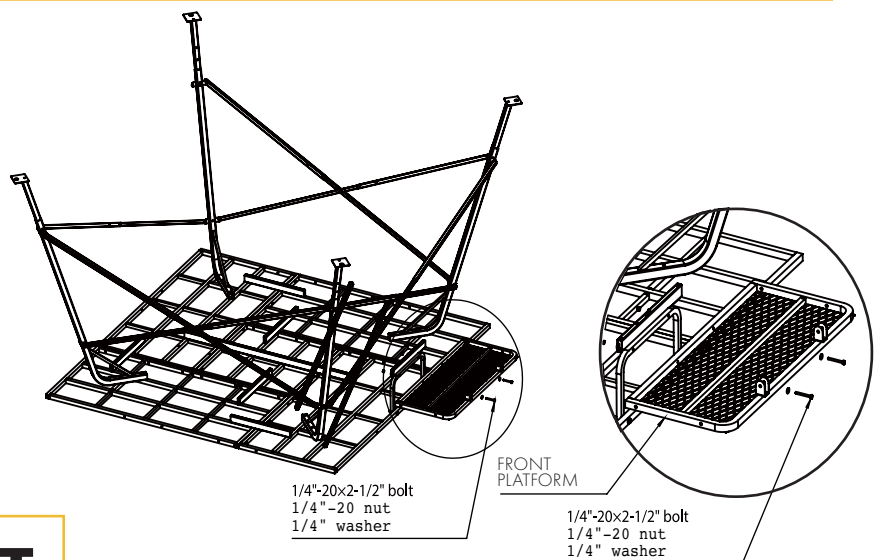

FIGURE 9
Attach the **FRONT PLATFORM (#11)** to the **FRONT PLATFORM CONNECTING ROD (#10)** by using (2) 1/4"-20 x 2-1/2" bolts, (2) 1/4" lock nuts and (4) 1/4" flat washers (Figure 9). **Be sure to not over tighten. Prepare to flip stand.**